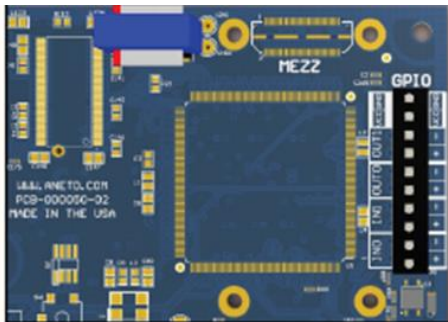
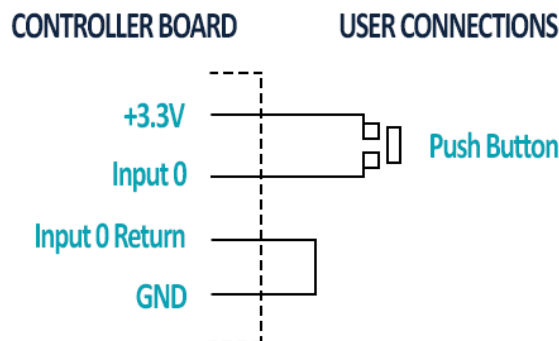

Figure 3 – 1.2 Controller Board GPIO
Figure 5 – Push Button Connections for 1.1 and 1.2 Controller Boards Only
2. Use the pin mapping shown in Figure 3 or 4 to connect the push button to the pins as shown in Figure 5.